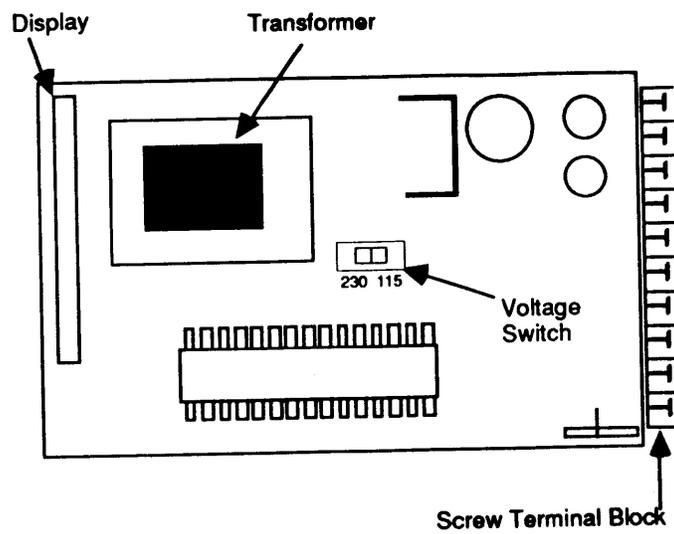

fig. 11 -- Top View of Main board on display.;
- c** On the main display board set the voltage switch for the appropriate input voltage and replace the unit. See fig. 11 for a top view of the main display board.